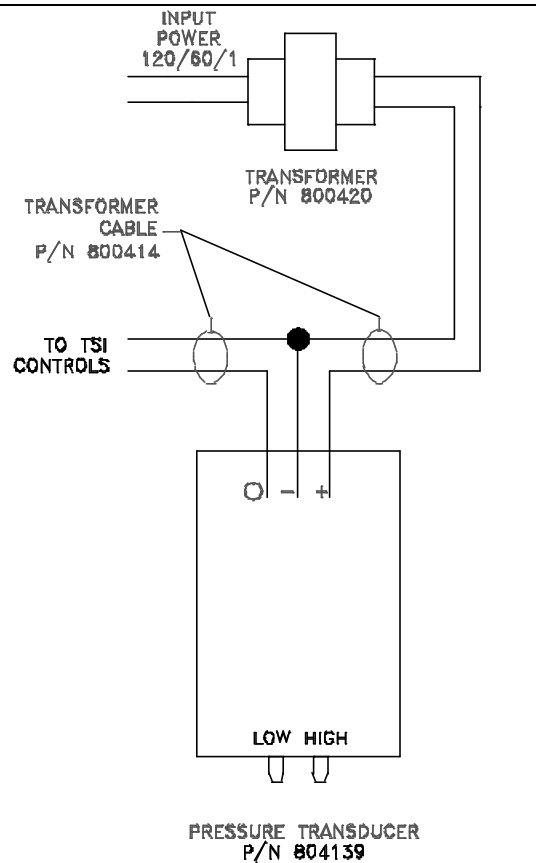

Figure 5: Transducer Wiring
- 9) Refer to the wiring diagram for proper transducer wiring (Figure 5). The cable is terminated at the pressure transducer and at the TSI controller or monitor.
Wire the transducer to the FLOW INPUT terminals on the TSI controller, per Figure 5. Refer to the Installation Instructions for the TSI controller to determine the correct terminals.